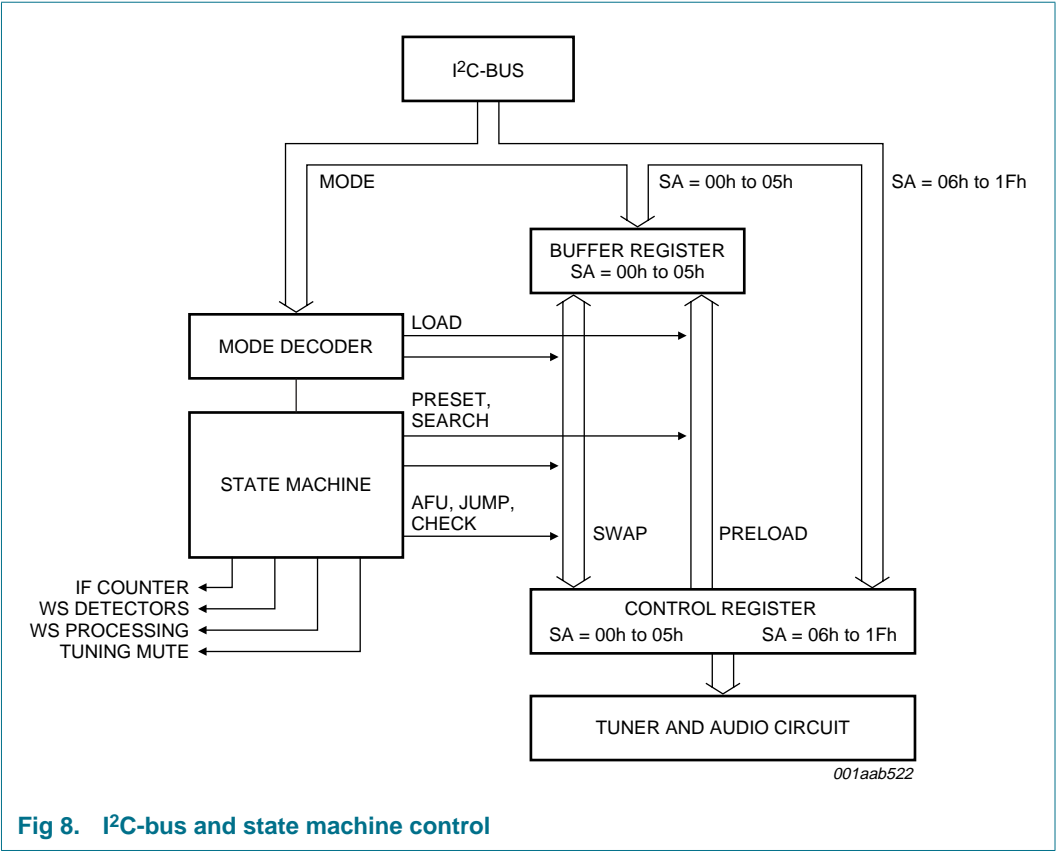

Fig 8. I²C-bus and state machine control
The device is controlled by the I²C-bus. After the Integrated Circuit (IC) address the MSA byte contains the control of the tuning action via the bits MODE[2:0] and subaddressing via bits SA[4:0] (see Figure 8).